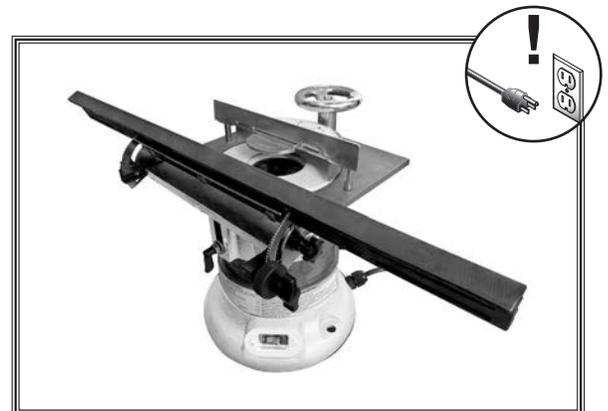

Figure 12. Pivot support and slide table assembly properly attached to grinder.
4. Re-attach pivot support to the grinder table so flat surface of slide table is facing wheel, as shown in **Figure 12**.